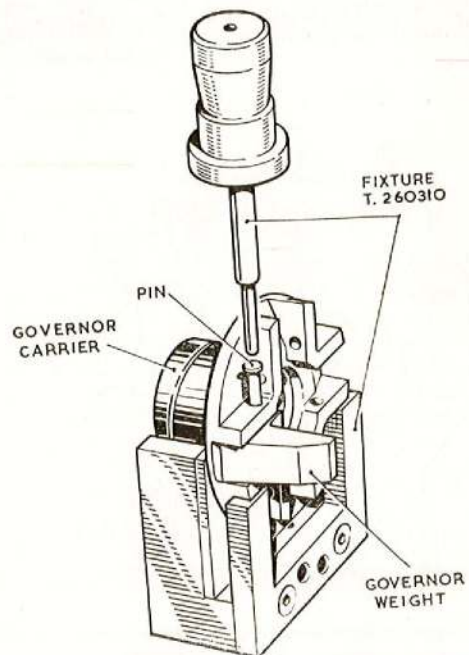

Fig. 3. Removing or assembling the governor weights
68. Fit the splined coupling (69) to the governor carrier (68) and at each end fit a washer and circlip (66) and (70).
69. Assemble the four governor weights (65) to the carrier and retain them with the pins (67), using the tool T.260310, fig. 3. The pins must be selected to give an interference fit in the governor carrier of 0.0001 to 0.0002 in and a clearance fit in the governor weight of 0.0002 to 0.0004 in. A range of pins to three sizes should be available. Use the sizing plugs G.89693 to G.89697 and G.89791 to G.89796 to check the hole diameters, and a Precimeter gauge to check the pin diameters.
25. Withdraw the governor carrier (68) and attached weights (65) from the body and remove the circlip carbon bush (71) and remove the circlip with washer (70) and splined coupling (69) from the carrier bore. Remove the four pins (67) and weights, using the tool T.260310 (fig. 3). Release an identical circlip and washer (66) from the exposed bore.